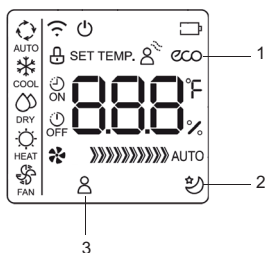

fig. 6 -
- ECO mode** (part. 1 "fig. 6 -") (the indoor unit display shows the "E-C-O" letters one by one, followed by the temperature setpoint). The "energy saving" mode is only available in COOL mode by pressing the "ECO" button. If the temperature setpoint is lower than 24°C, by activating the "ECO" mode the temperature setpoint is automatically set to 24°C and fan speed to "Auto" to save energy. If the temperature setpoint is higher than 24°C, by activating the "ECO" mode the temperature setpoint does not change and fan speed is set to "Auto". To stop the "ECO" mode, either press the "ECO" button, or choose another operation mode, or choose a temperature setpoint lower than 24°C
- SLEEP function** (part.2 "fig. 6 -"). Keep pressed the "ECO" button for 2 seconds to activate the "SLEEP" mode is indicated by the symbol on the display. The set point temperature will be increased (in cooling operation "COOL") or decreases (in hot operation "HEAT") 1 ° C at predetermined intervals to a maximum of 2 ° C. SLEEP function stops automatically after 8 hours and the unit will continue operation by keeping the last setpoint. The function is not available in "FAN" and "DRY" modes.
- FOLLOW ME function** (part.3 "fig. 6 -"). Activated in HEAT - AUTO - COOL mode operation. The remote control will send this signal to the air conditioner every 3 minutes interval until press the Follow Me button again. The air conditioner will cancel the Follow Me feature automatically if it does not receive the signal during any 7 minute interval.